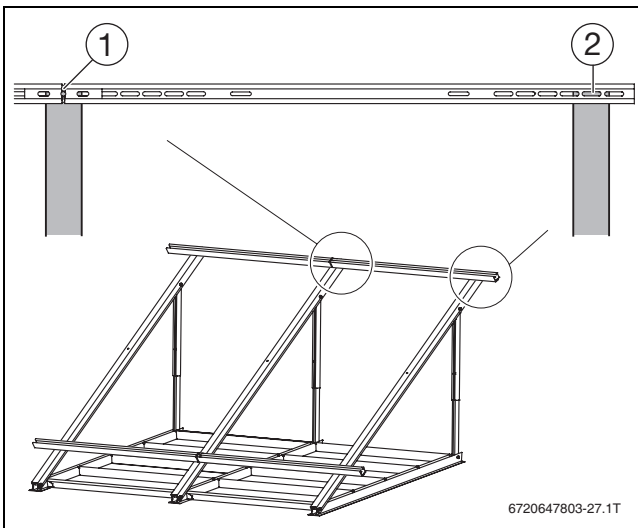

Fig. 40
- ▶ Position the profile rails on the collector supports. For this, start as shown in → Fig. 40 and Tab. 18, 19 plus 20 subject to type of installation.
Landscape	Second hole from the right (→ Fig. 40 [2])
Landscape	Central hole of the connector (→ Fig. 40 [1])